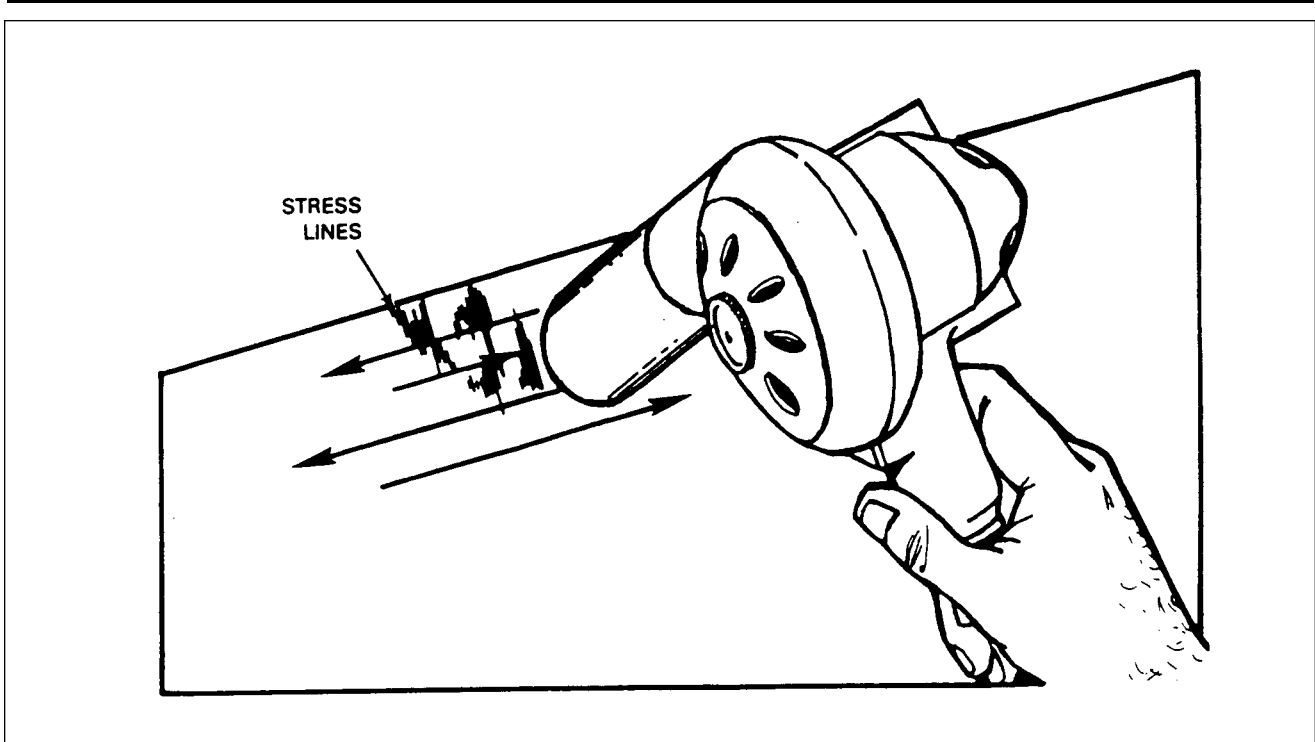

Figure 51-8. Repair of Stress Lines
- 6. Stress lines: (figure 51-8)